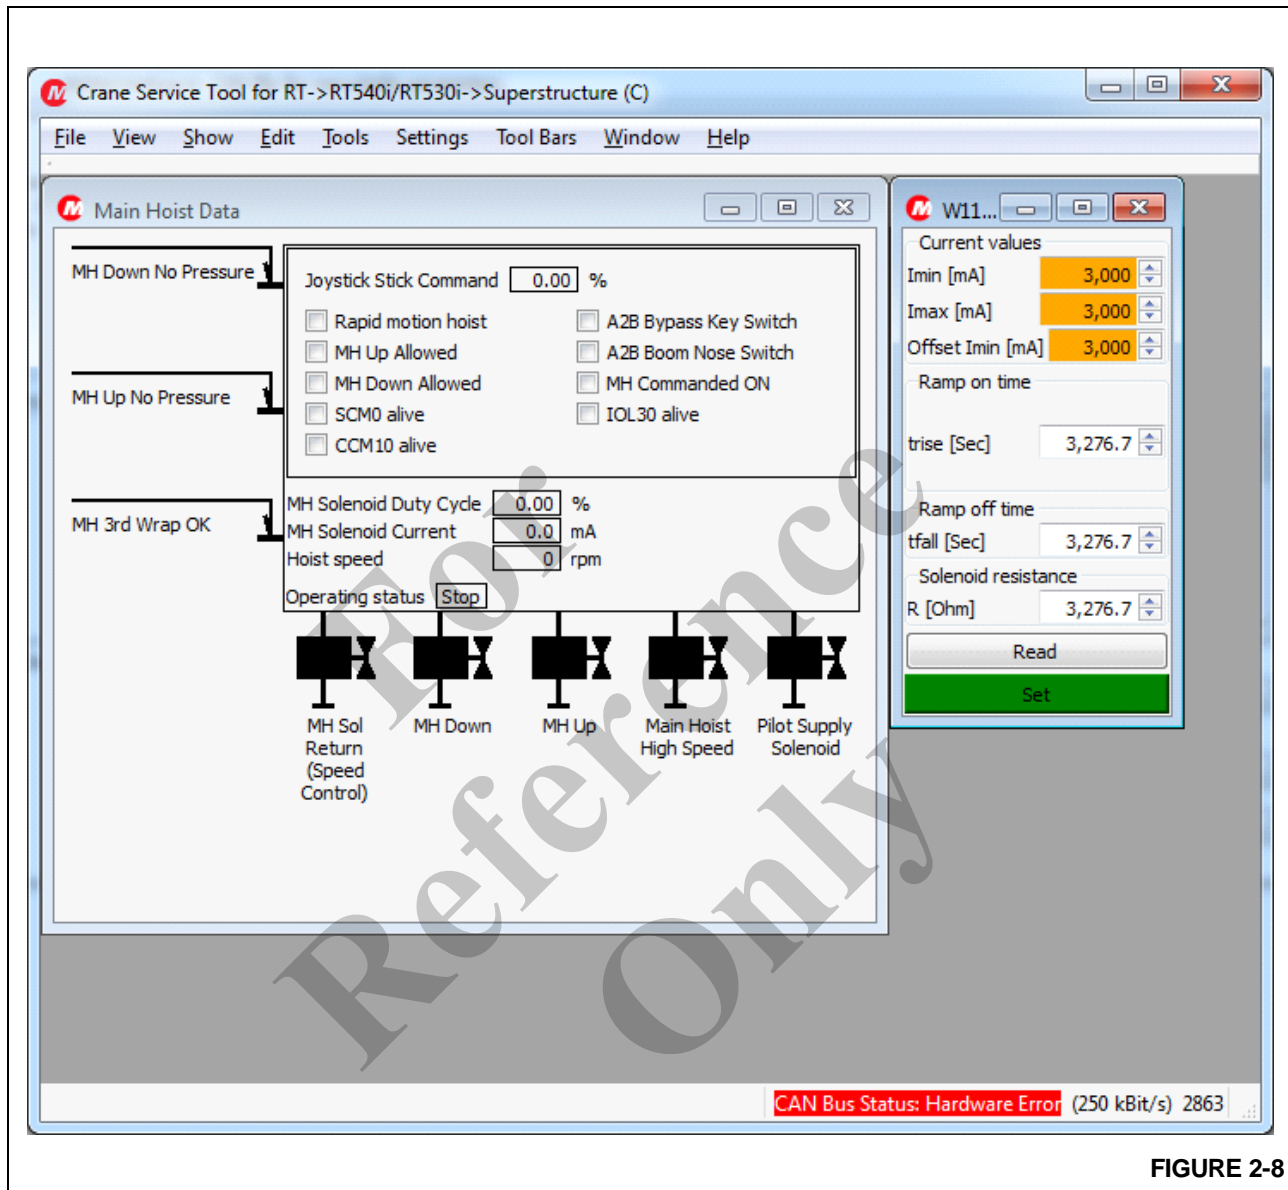

FIGURE 2-8
1. Attach laptop to diagnostic connector in cab and make sure CAN C is selected (position 3 on CAN selector knob) (Figure 2-8).
5. Current range settings for each function can be found in the Crane Service Tool in the menu bar under View->Superstructure. Select the function and a child window will open. Select the Speed Control solenoid icon, normally located in the lower left of the window. An example is shown for Main Hoist (Figure 2-8).